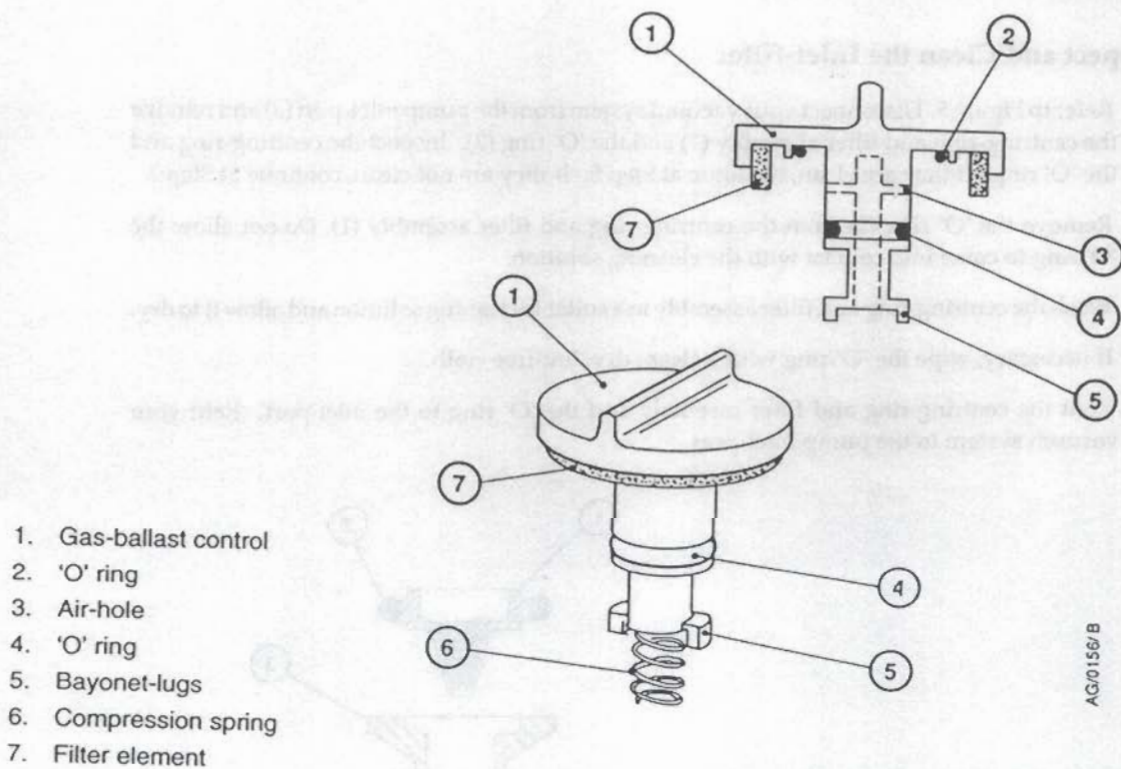

Figure 6 - Gas-ballast Control Assembly
*Note: The gas-ballast filter element (Figure 6, item 7) is retained in its seating with adhesive; do not try to remove it.*
1. Refer to Figure 6. Turn the gas-ballast control (1) to the high flow position (position 'II').
2. Push the control down against the compression spring (6) as far as it will go, then turn the control anticlockwise slightly to release the bayonet-lugs (5) and remove the control.
3. If necessary, wipe the control with a clean, dry, lint-free cloth and check that the air-hole (3) is not blocked.